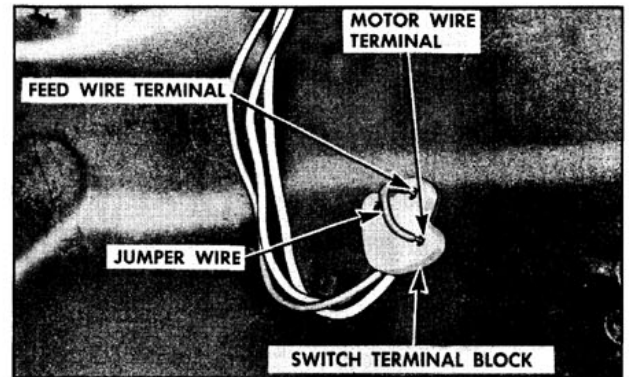

Fig. 16-171 Checking Window Control Switch
1. Insert one end of a No. 12 gauge jumper wire to the switch feed terminal and the other end to one of the motor lead terminals in the switch block. Repeat this check on the remaining motor lead terminal. (Fig. 16-171)
2. Insert one end of a No. 12 gauge jumper wire to the switch feed terminal and the other end to one of the motor lead terminals in the switch block. (Fig. 16-171)